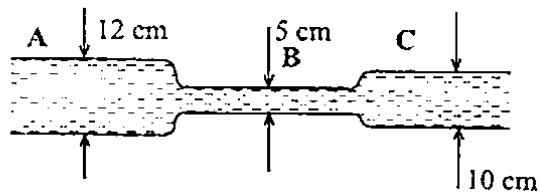

Fig. 2.1
- (ii) Fig. 2.1 shows oil of density 800 kg/m^3 flowing in a tube.
- (iii) The pressure in Section A in Fig. 2.1 is 100 kPa.